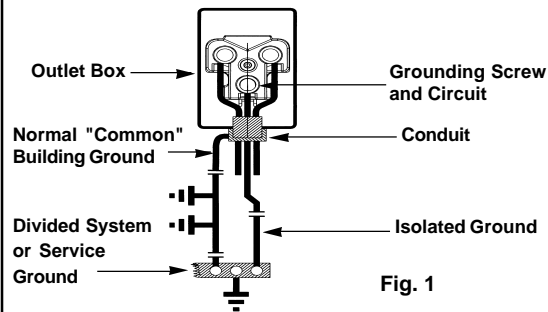

Fig. 1
- Loosen terminal screws. Insert conductors fully into proper terminals per Fig. 1 and center under terminal screw.